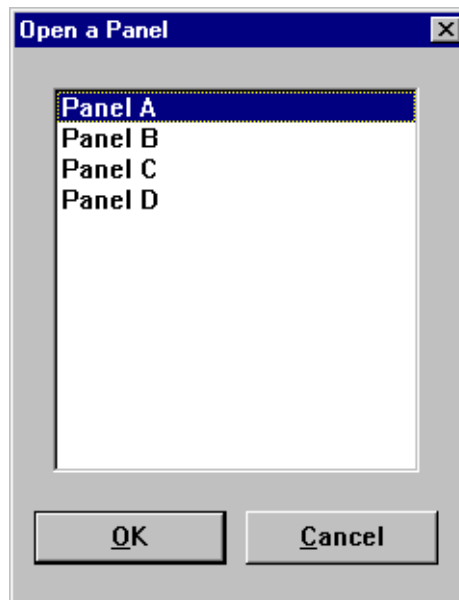

Figure 85. Open Panel dialog box
1. Choose **Window | Open Panel**. The Open a Panel dialog box appears (Figure 85).